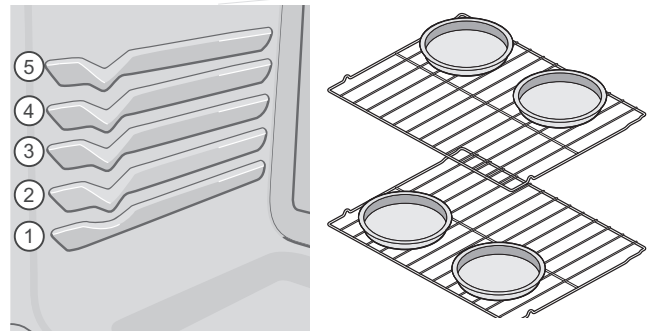

Figure 13: Rack positions (L) and pan spacing (R)
- When baking cakes or cookies using two oven racks, place cookware as shown in Figure 13 and place racks in rack positions 1 and 4.